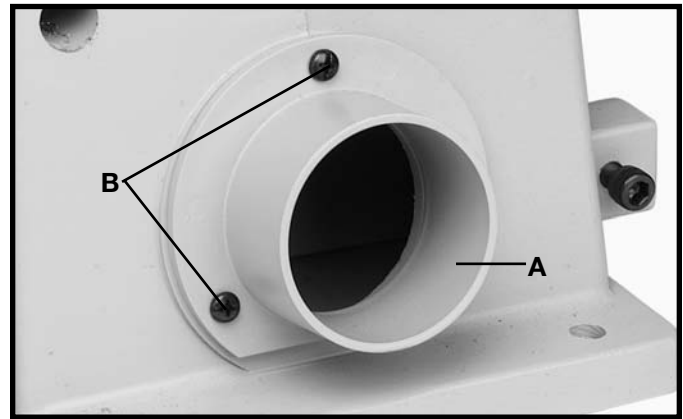

Fig. 13
Align the three holes in the dust chute (A) Fig. 13 with the three holes in the left side of the sanding base. Place a M5.3 flat washer onto a M5x.08x10mm pan head screw (B) Fig. 13, and insert screw through hole in dust spout and thread into taped hole in sander base. Repeat this process for the two remaining holes.